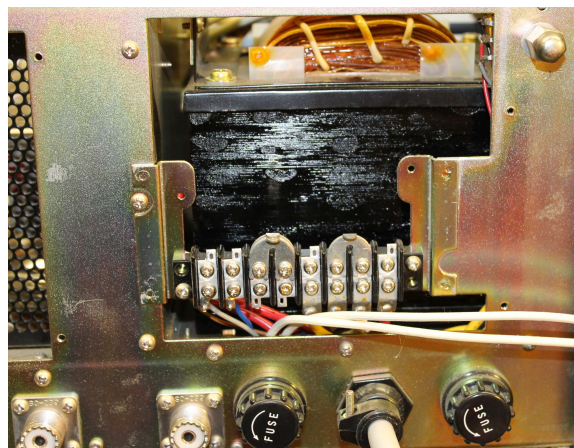

Figure 2.6: Mains Voltage Selection Terminal Strip
- Remove the enclosure, exposing the mains-adjustment terminal strip (Figure 2.6).